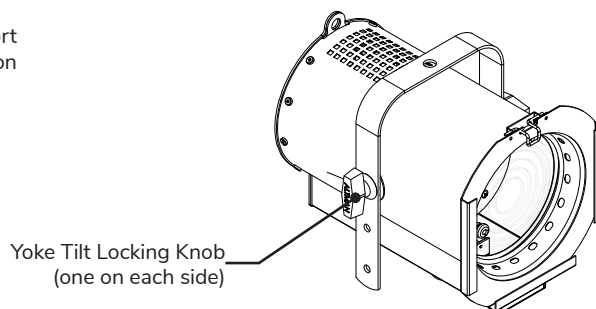

Figure 9: Yoke Setting
1. With luminaire on a flat, sturdy surface, position Pegasus LED for easy access as illustrated in **Figure 9**.